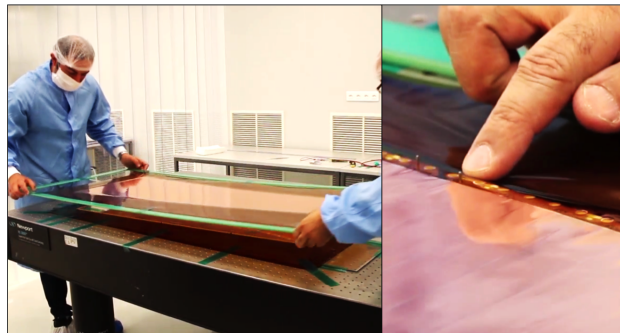

Figure 72: Placing GEM3.
Step 23: Take the third GEM foil and place it on top of the stack (Fig. 72).